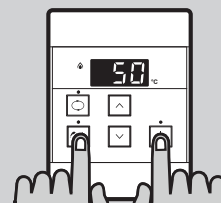

Fig. 3
STEP 1: For the water controller in the KITCHEN ONLY, press and hold the 'Priority Transfer' and 'On/Off' buttons simultaneously (Fig. 3) until a 'beep' is heard (approximately 5 seconds).